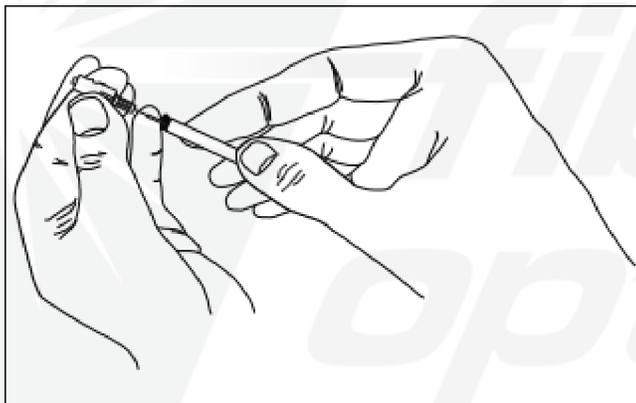

Figure 7: Rotate the connector slightly to ease fiber insertion.
10. Hold the connector and cable as shown in Figure 7 and insert the fiber carefully into the connector until .25" of fiber protrudes. Slight rotation of the connector may assist the insertion.